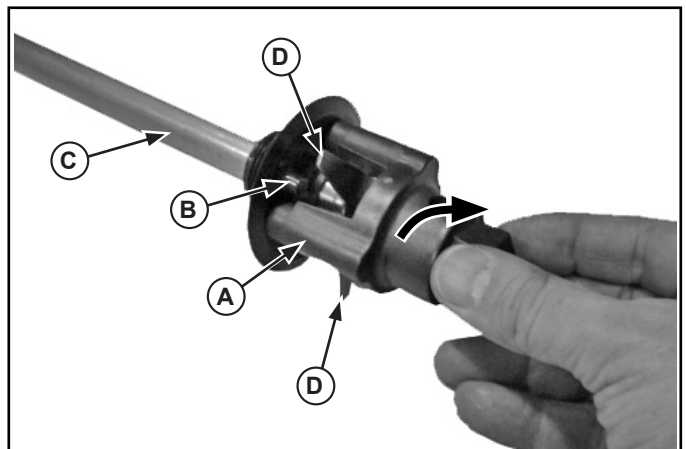

Figure 10. Installation of New Blades.
8. To tighten the blades place the blade tool (A) onto the blade assembly shaft (C) so it straddles the blades (D) as shown in Figure 10.
9. Hold the blade shaft assembly (C) and rotate the blade tool (A) in clockwise direction to secure the blade (D). Tighten securely. See Figure 10.